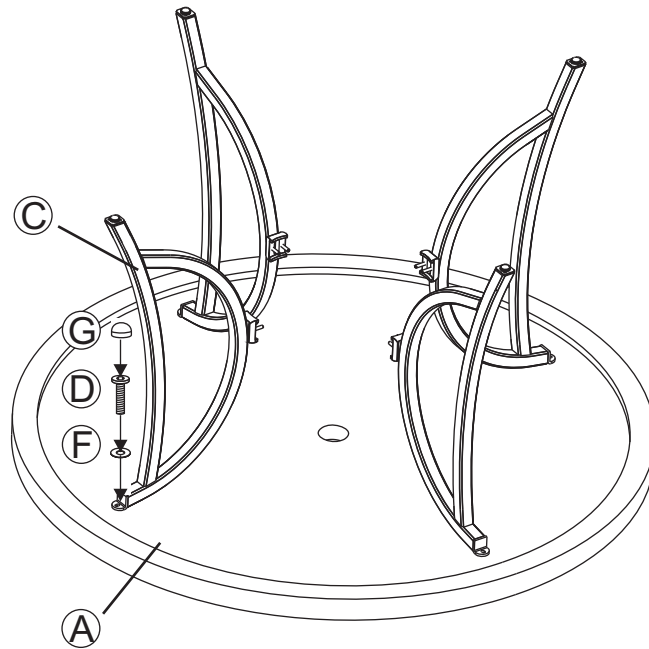

Figure 1
- 1 Place the table top upside down on a flat, non-abrasive surface. Attach a table leg to the table top by using the bolts and washers as shown in the **Figure 1**. Guide the bolts through the holes in the table leg, into the pre-drilled holes in the table top. **Hand tighten 2-3 turns only.** Repeat for the other three legs.